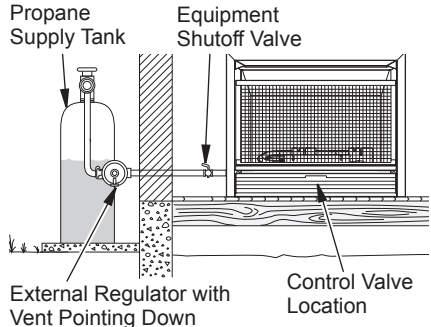

Figure 17 - Checking Gas Joints for Propane Gas
3. Check all joints from gas meter to equipment shutoff valve for natural gas or propane supply to equipment shutoff valve for propane (see Figure 17 or 18). Apply a noncorrosive leak detection fluid to all joints. Bubbles forming show a leak.
4. Check all joints from equipment shutoff valve to control valve (see Figure 17 or 18, page 16). Apply a noncorrosive leak detection fluid to all joints. Bubbles forming show a leak.